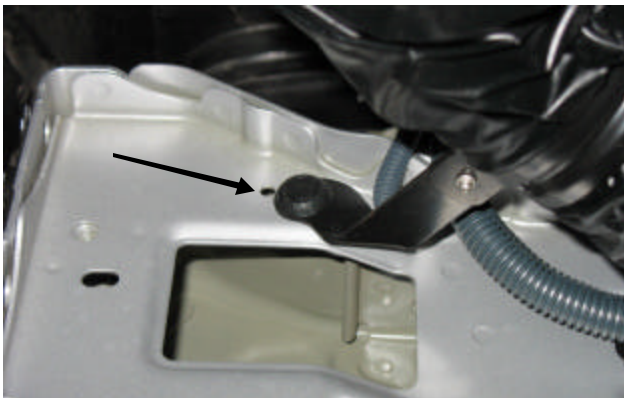

Fig. 3-11
- (5) Remove the clip holding the inlet tube to the fender, and remove the inlet tube from below. (Fig 3-11)